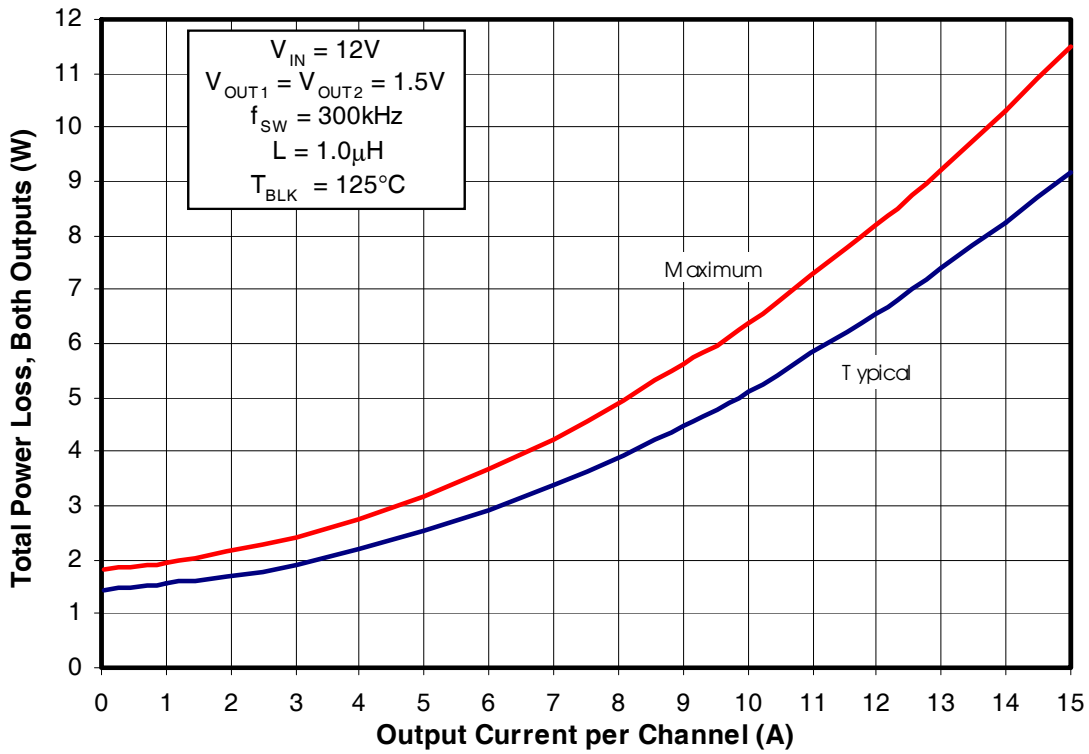
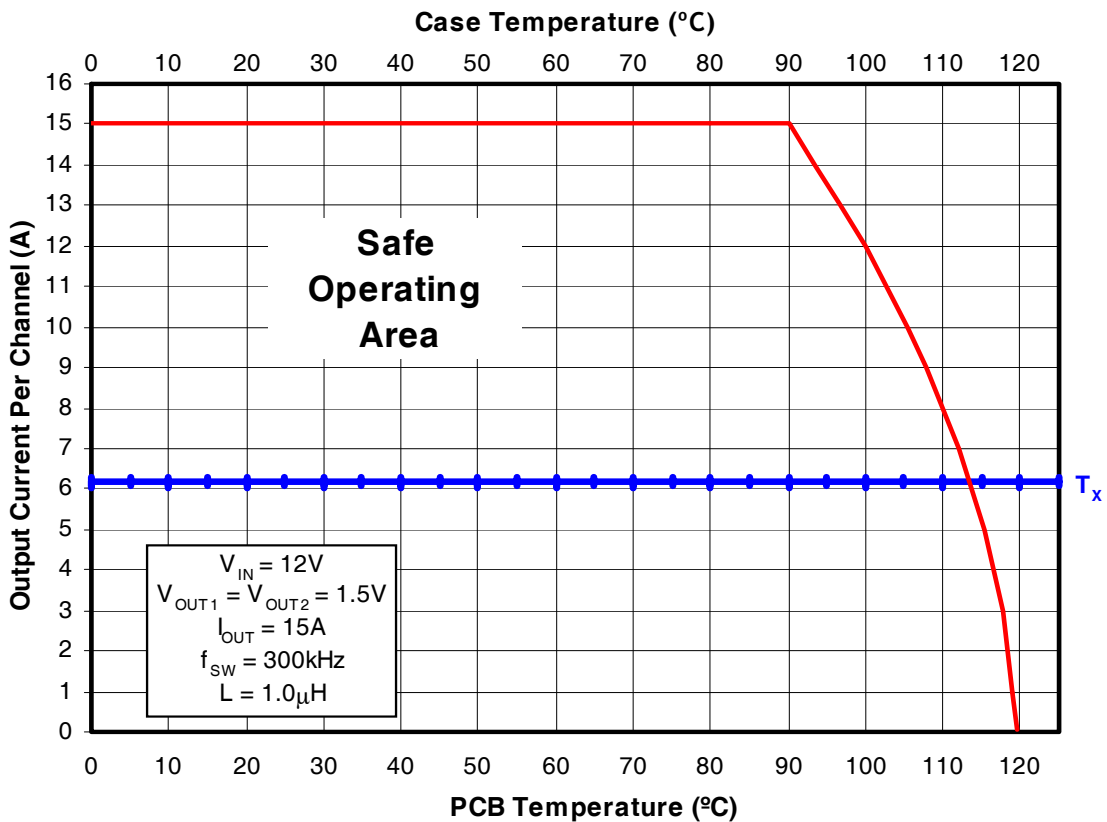
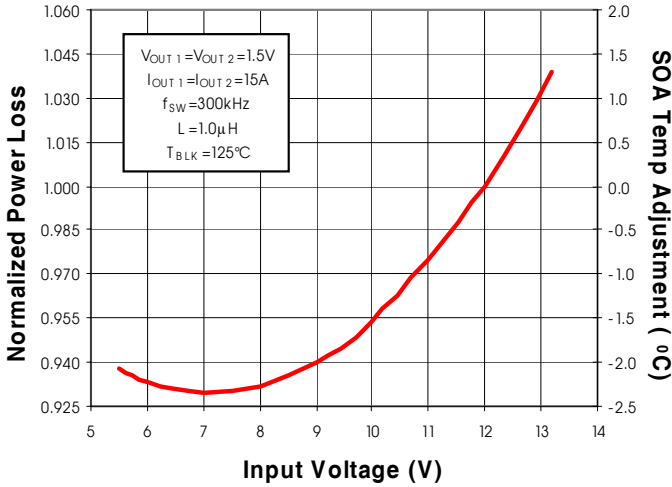

Fig. 2: Power Loss vs. Current
Fig. 3: Safe Operating Area (SOA) vs. T_{PCB} & T_{CASE}
Fig. 4: Normalized Power Loss vs. V_{IN}
To make adjustments to the power loss curves in Fig. 2, multiply the normalized value obtained from the curves in Figs. 4, 5, 6 or 7 by the value indicated on the power loss curve in Fig. 2. Remember that the power loss in Fig. 2. is the power loss for 2 outputs operating with the same output voltage. If differing output voltages are used the initial power loss for each channel needs to be divided by 2. Then if multiple adjustments are required, multiply all of the normalized values together, then multiply that product by the value indicated on the power loss curve in Fig. 2. The resulting product is the final power loss based on all factors. See example no. 1.
To make adjustments to the SOA curve in Fig. 3, determine your maximum PCB Temp & Case Temp at the maximum operating current of each iP1202PbF. Then, add the correction temperature from the normalized curves in Figs. 4, 5, 6 or 7 to the T_x axis intercept (see procedure no. 2 above) in Fig. 3. When multiple adjustments are required, add all of the temperatures together, then add the sum to the T_x axis intercept in Fig. 3. See example no. 2.
- Output1 (Fig. 2) Maximum power loss = $W 8.25/2 = 4.125W$
(Fig. 4) Normalized power loss for input voltage ≈ 0.93
- Output2 (Fig. 2) Maximum power loss = $6.4W / 2 = 3.2W$
- (Fig. 4) Normalized power loss for input voltage ≈ 0.93
- Output1 (Fig. 4) Normalized SOA Temperature for input voltage $\approx -2.3^{\circ}C$
- Output2 (Fig. 4) Normalized SOA Temperature for input voltage $\approx -2.3^{\circ}C$